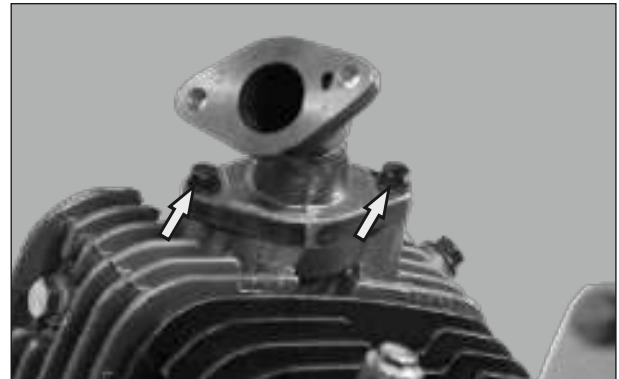

Fig. 3.171
- Fasten with 2 nos. Hexagonal flange bolt (M6x20) to the intake pipe. (Fig. 3.171)